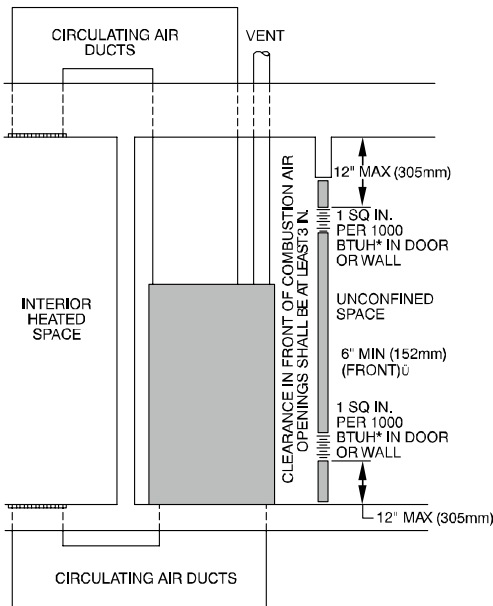

Fig. 7 – Air for Combustion, Ventilation, and Dilution from Indoors L12F013
- b. Combining spaces on same floor level. Each opening shall have free area of at least 1 in.2/1,000 BTUh (2,000 mm²/kW) of the total input rating of all gas appliances in the space, but not less than 100 in.2 (0.06 m²). One opening shall commence within 12 in. (300 mm) of the ceiling and the second opening shall commence within 12 in. (300 mm) of the floor. The minimum dimension of air openings shall be at least 3 in. (80 mm). See Fig. 7.